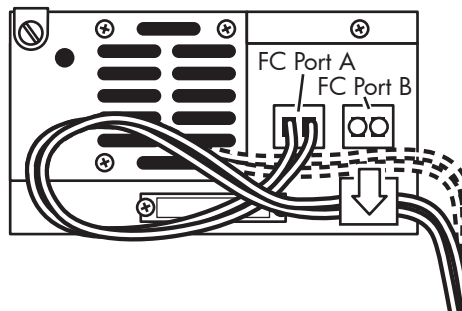

Figure 52: Inserting the FC cable in the drive cable clip
10. Insert the FC cable into the cable clip for the drive (see Figure 52).